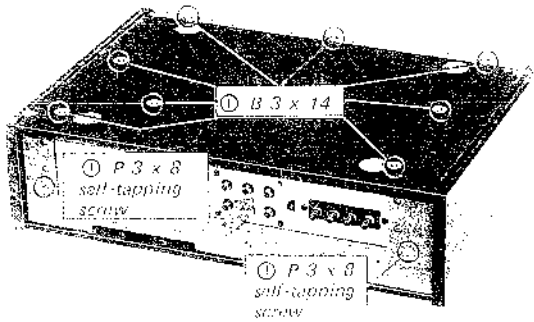

Fig. 2-2. Wooden case removal
1. Remove the eight screws and the two self-tapping screws shown in Fig. 2-2.
2. Push out the receiver unit in the direction shown in Fig. 2-2.